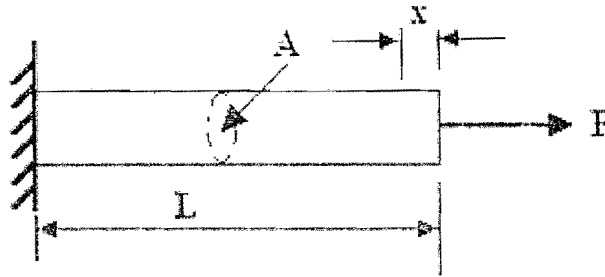

Figure 2
- b) In **Figure 2** below the force F is 36 N, L is 4 m and the diameter of the rod is 30mm. for given that the young's modulus for steel is 210 GPa and for aluminium is 69 GPa. For each of the elements, find the following: